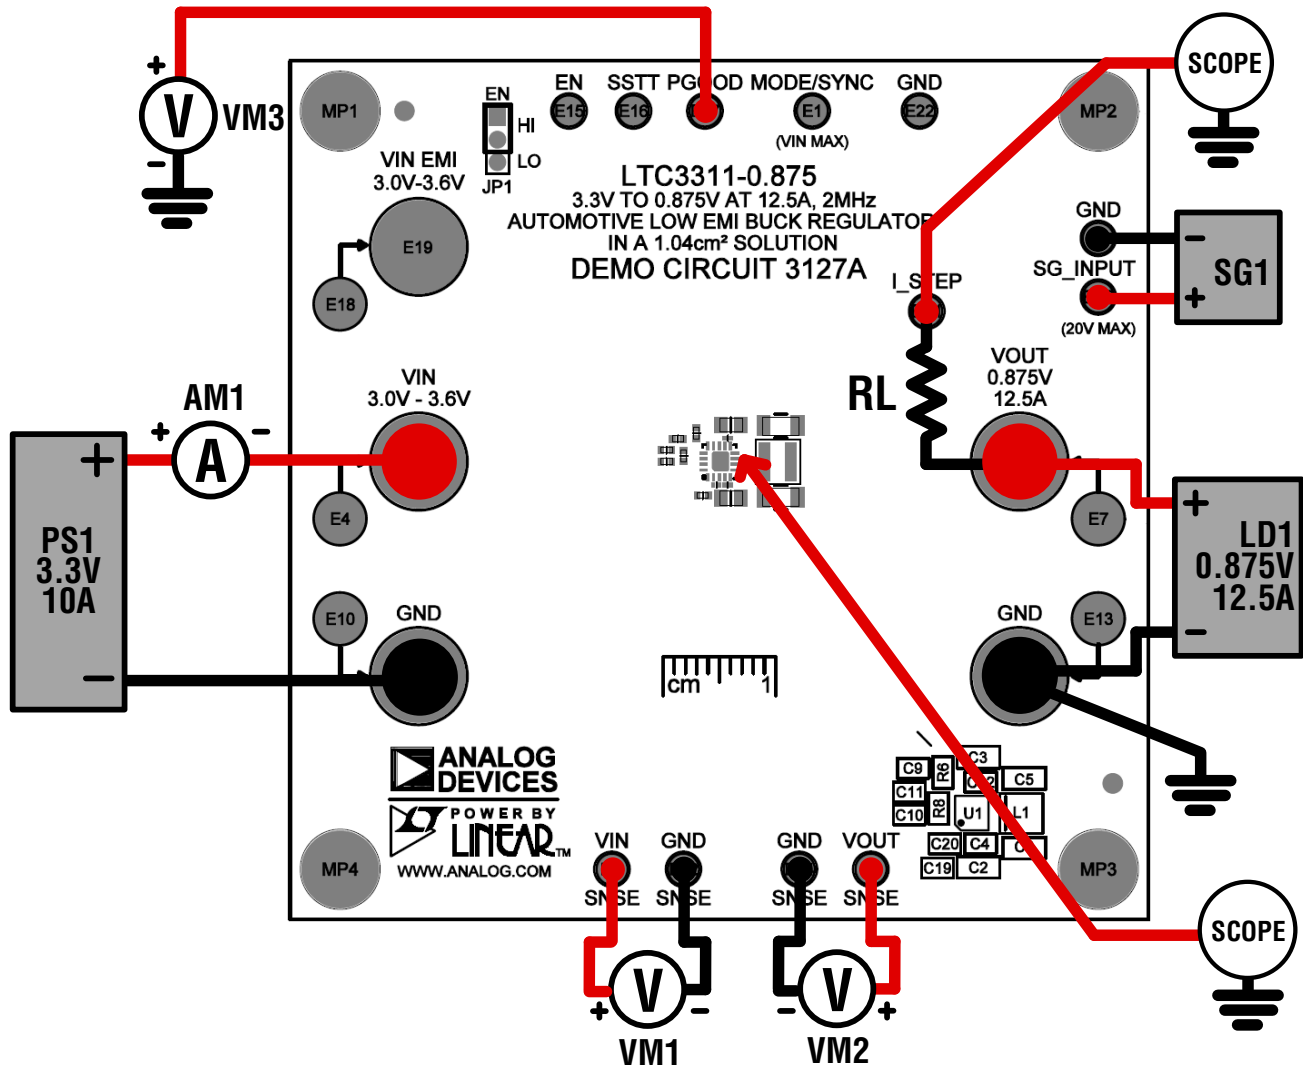

Figure 2. Test Setup for DC3127A Demo Board
Refer to Figure 2 for the proper measurement equipment setup and follow the procedure below:
NOTE: For accurate V_{IN} , V_{OUT} and efficiency measurements, measure V_{IN} at the VIN SNSN and GND SNSN turrets, and measure V_{OUT} at the VOUT SENSE and GND SENSE turrets as illustrated as VM1 and VM2 in Figure 2. When measuring the input or output ripple, care must be taken to avoid a long ground lead on the oscilloscope probe.
7. To test the transient response with a base load, add the desired resistor to produce a minimum load between VOUT and I_STEP turrets (RL shown on Figure 2). Note that the total load resistance will be RL plus R10 (20mΩ). Adjust a signal generator with a 10ms period, 10% duty cycle and an amplitude from 1V to 2V to start.